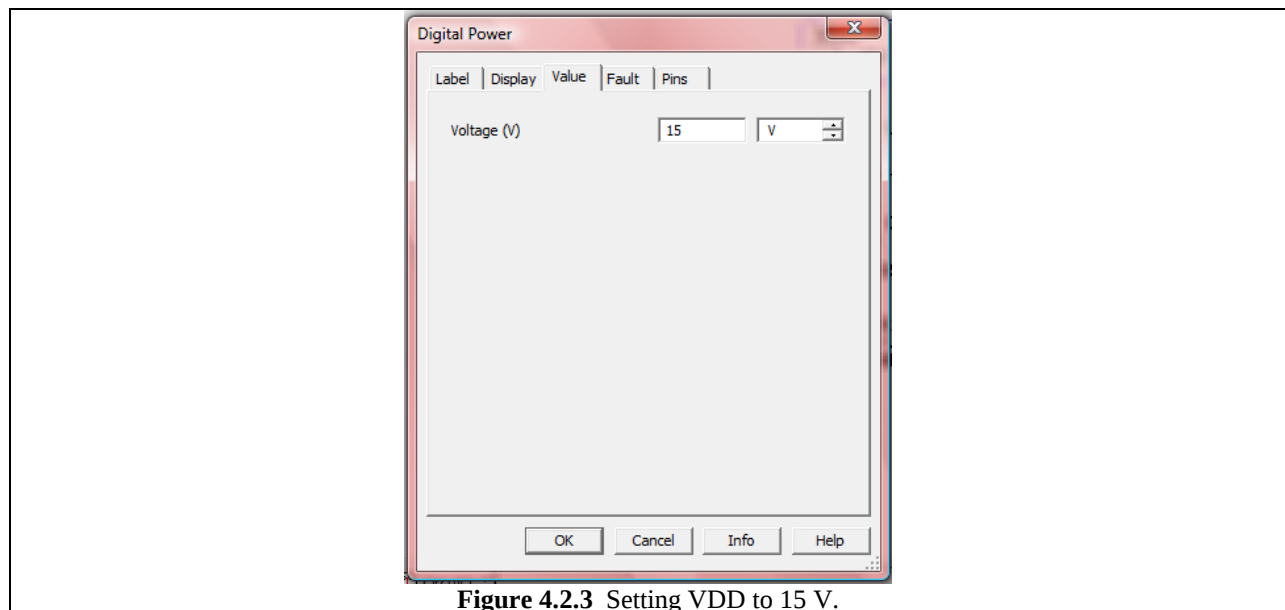

Figure 4.2.3 Setting VDD to 15 V.
You'll notice that next to VDD it says 5V and nearby VSS it says 0V. These are the values of these two sources. This is not what we want. We need to change them, and to do so, double click on the VDD component to bring up the window shown in Fig. 4.2.3. Change the Voltage (V) field to 15 V. Do the same for VSS except set it to -15 V. This will give us balanced (equal in magnitude) supply rails.